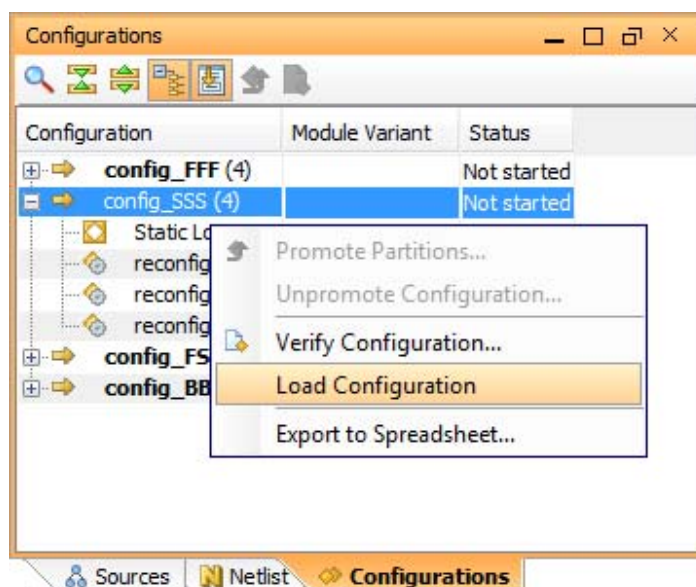

Figure 4-27: Loading an Existing Configuration
1. Use the **Load Configuration** command in the popup menu in the Configurations pane to load the netlist for analysis as shown in Figure 4-27.